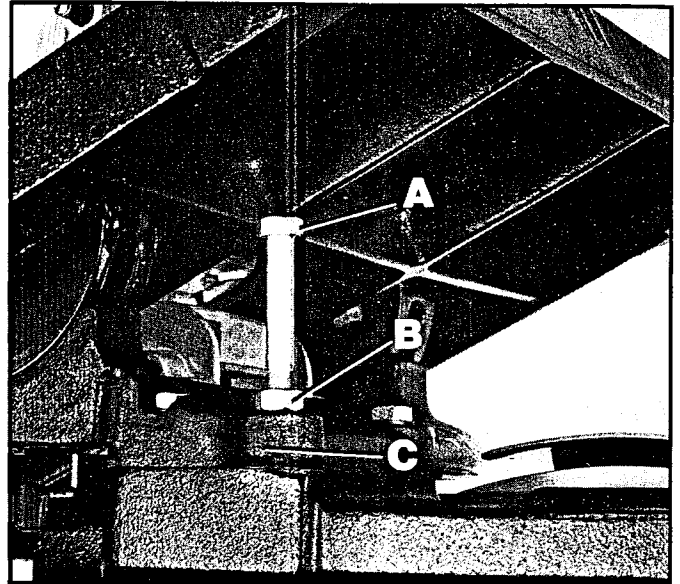
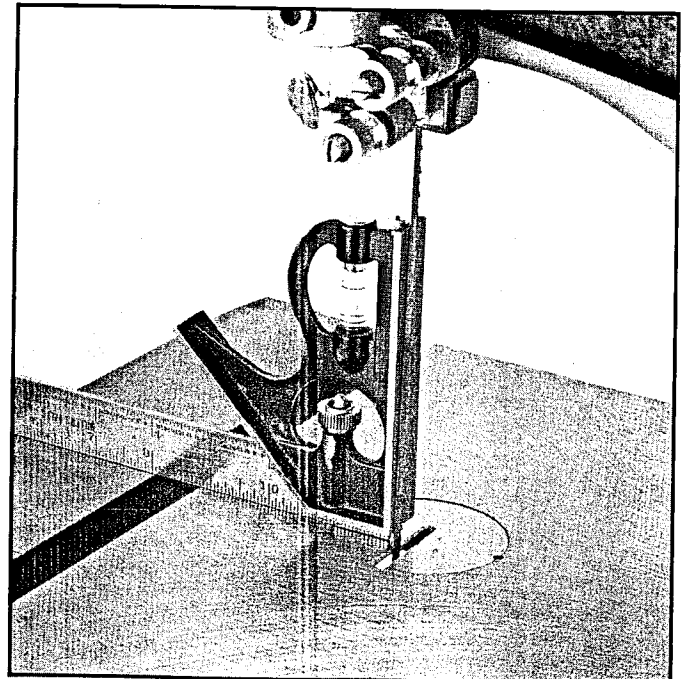

Fig. 21
Fig. 22
The band saw is equipped with an adjustable table stop (A) Fig. 21, that allows the table to be set perfectly at 90 degrees with the blade.
Tilt the table to the left until the table stop (A) Fig. 21, contacts the bottom of the table. Place a square on the table and against the blade as shown in Fig. 22, and check to see if the blade is 90 degrees to the table surface. If an adjustment is necessary, proceed as follows:
2. Turn adjustment nut (B) Fig. 21, right or left as necessary to raise or lower table stop (A). **IMPORTANT:** Certain models of band saws will have an additional locknut assembled to the end of the table stop (A) Fig. 21, directly under casting (C). Loosen locknut and turn adjustment nut (B) right or left as needed to raise or lower the table stop (A). Tighten locknut after adjustment is made.
3. Lower the table and make certain the table is 90 degrees to the blade as shown in Fig. 22.
4. It is necessary to remove the adjustable table stop (A) Fig. 21, when tilting the table to the left.